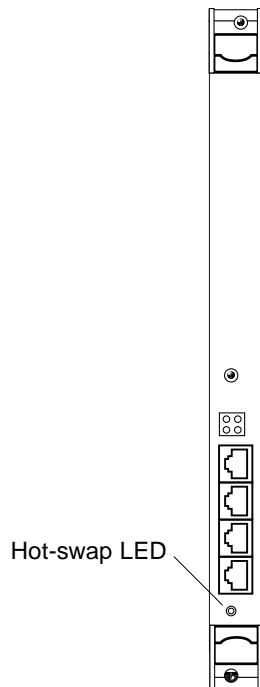

FIGURE 3-7 Location of the Front-Access Adapter's Hot-Swap LED
- 10. Locate the hot-swap LED on the adapter to determine if the adapter has been activated and is attached to the system (see FIGURE 3-7).**
3. During the power on sequence, watch the hot-swap LED on the adapter (FIGURE 3-7).